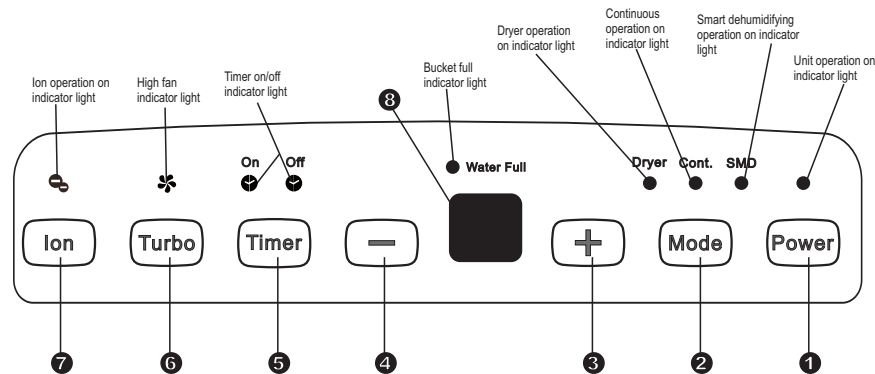

Fig.1
**NOTE:** The control panel of the unit you purchased may be slightly different according to the models. Some models can be controlled by remote controller. Some models have no remote control function. See the following Fig.1. Please refer to the REMOTE CONTROLLER INSTRUCTIONS for the remote operation.